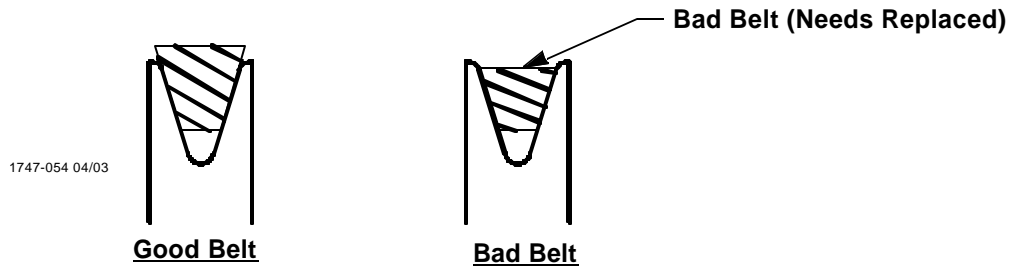

Figure 15. Belt Condition
- Periodically check the V-Belt and replace if necessary. A worn Belt will cause a substantial drop in Fan performance or it can break and cause Fan failure. If a Belt rides below the Sheave edge, replace the belt. (See **Figure 15** below)